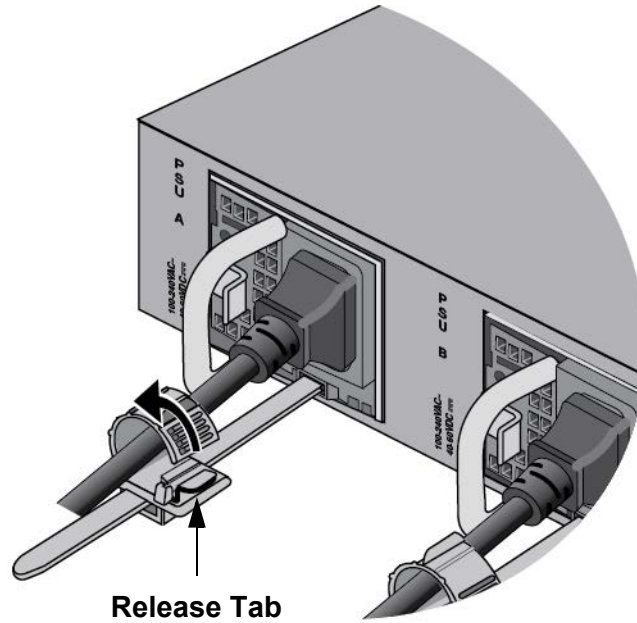

Figure 145. Opening the Restraining Strap on the PWR600 Power Supply
2. Open the restraining strap on the power cord by pressing down on the release tab and pulling out the strap. Refer to Figure 145 on page 254.